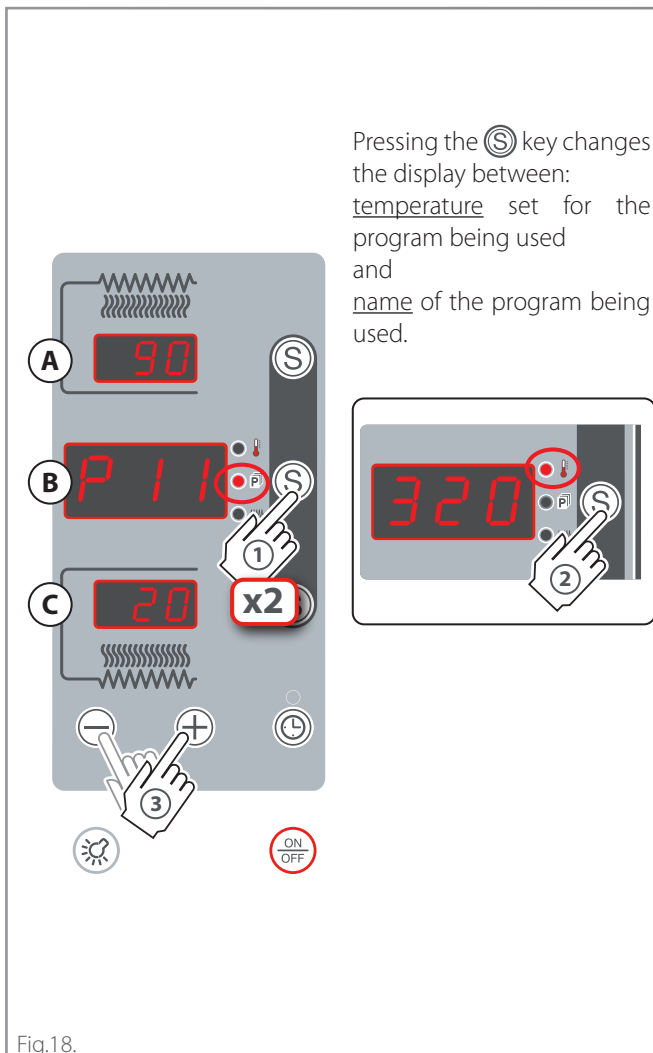

Fig.18.
See ► chapter “**Using a previously stored program**” on page 16 and ► Fig.18.
► Fig.18.
- ① Press the  key twice quickly: the program LED switches on , the display **(B)** shows the program being used (e.g. P11) while displays **(A)** and **(C)** show the percentage of the elements set in that program.
- ② If you wish to know also the temperature set for the displayed program, press key  (the temperature LED will switch on ). To display the name of the program again, press key  again.
- ③ To select a different program, when display **(B)** shows the name of the program being used (e.g. P11), press the keys "+" and "-" to scroll the list of the 99 available programs.